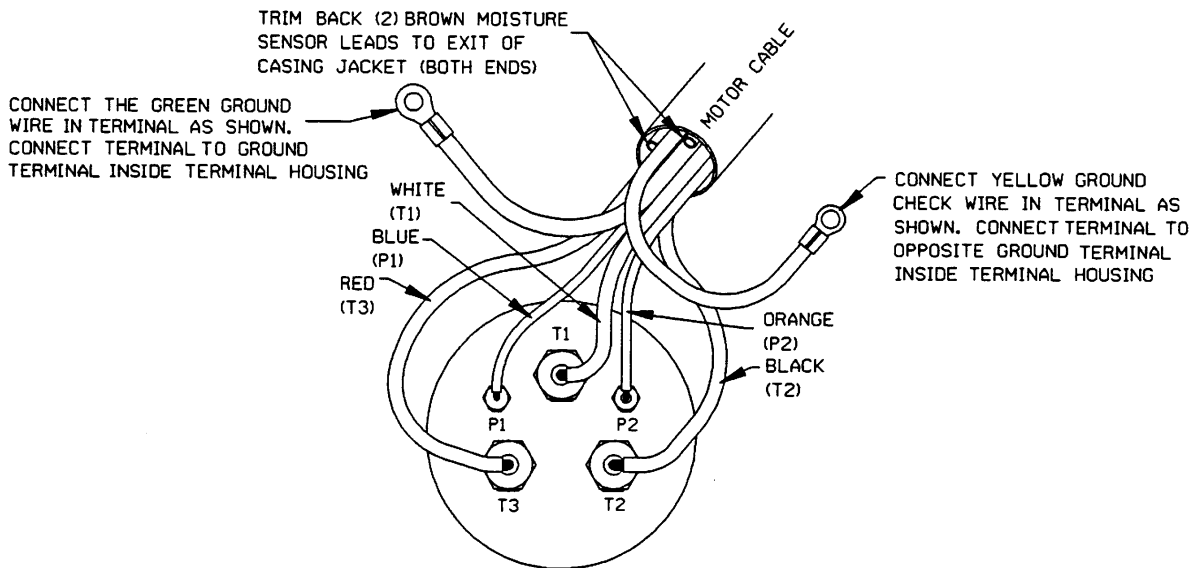

Figure 4. Terminal Housing Wiring Connections
control leads into the small terminal collars (14) and secure them with the setscrews (13). See Figure 4 for wiring connections.